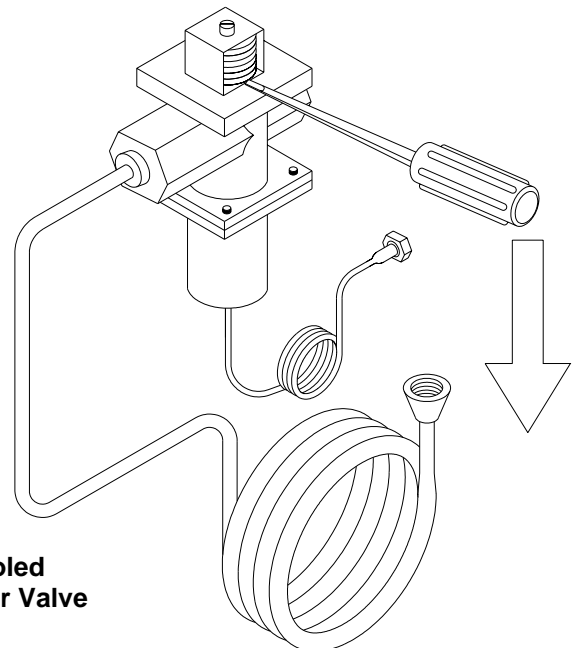

Fig. 27
6. **On water-cooled units, disconnect the water lines. Use compressed air to blow out all remaining water in the condenser. Insert a screwdriver (Fig. 27) to open the water valve.** **Note: Failure to purge the machine of water can result in severe damage to the cooling system. This task should be performed by a qualified service technician.**